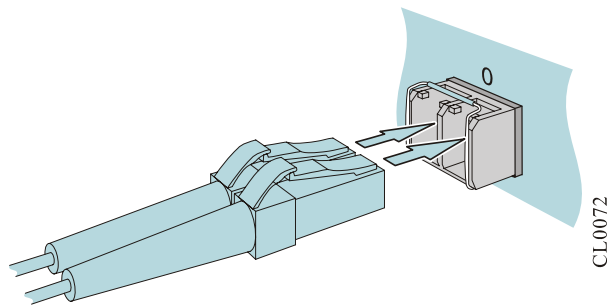

FIGURE 4-12 CONNECT FIBERS
Step 4: Insert the prepared fibers to the ports of the optical module in order, as shown in Figure 4-12.